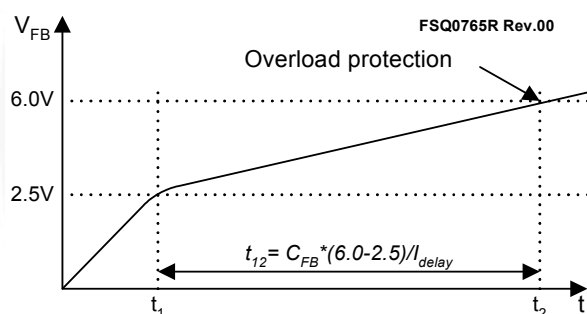

Figure 29. Overload Protection
**4.1 Overload Protection (OLP):** Overload is defined as the load current exceeding its normal level due to an unexpected abnormal event. In this situation, the protection circuit should trigger to protect the SMPS. However, even when the SMPS is in the normal operation, the overload protection circuit can be triggered during the load transition. To avoid this undesired operation, the overload protection circuit is designed to trigger only after a specified time to determine whether it is a transient situation or a true overload situation. Because of the pulse-by-pulse current limit capability, the maximum peak current through the SenseFET is limited, and therefore the maximum input power is restricted with a given input voltage. If the output consumes more than this maximum power, the output voltage ( $V_O$ ) decreases below the set voltage. This reduces the current through the opto-coupler LED, which also reduces the opto-coupler transistor current, thus increasing the feedback voltage ( $V_{FB}$ ). If  $V_{FB}$  exceeds 2.5V, D1 is blocked and the 5μA current source starts to charge CB slowly up to  $V_{CC}$ . In this condition,  $V_{FB}$  continues increasing until it reaches 6V, when the switching operation is terminated, as shown in Figure 29. The delay time for shutdown is the time required to charge  $C_{FB}$  from 2.5V to 6V with 5μA. A 20 ~ 50ms delay time is typical for most applications.